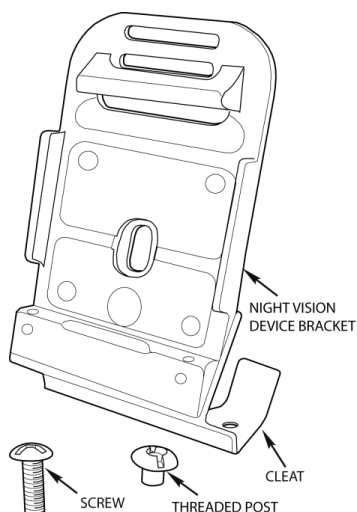

Figure 1. Old (Black) ACH NVG Bracket and Hardware.
- Obtain the screw and threaded post for the old ACH NVG bracket (Figure 1).